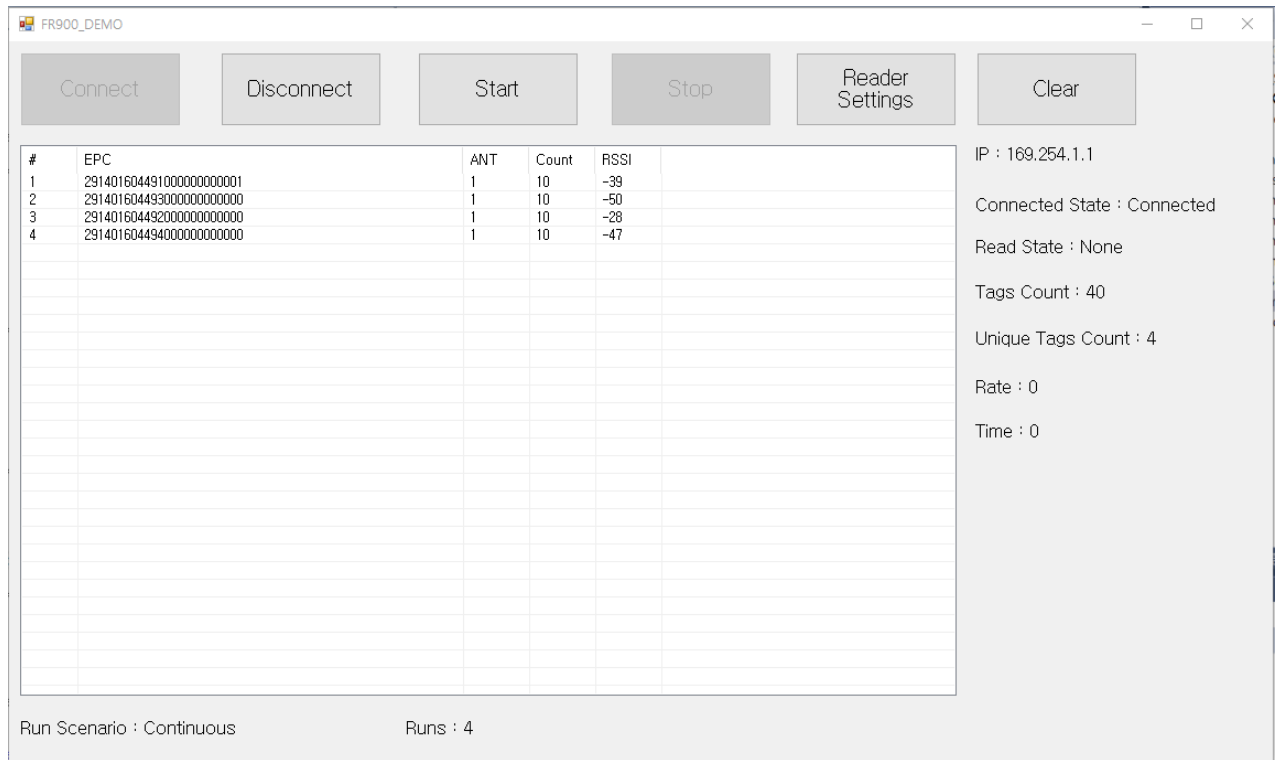

Figure 4.5 DemoApp Reader Settings Connection and Start
3. Test your Reader installation. Place one or more tags in the read-zone of one or more of the attached antennas. On the DemoApp screen, click Connection and Start. Tag reads appear under Inventory, as shown in Figure 4.5.